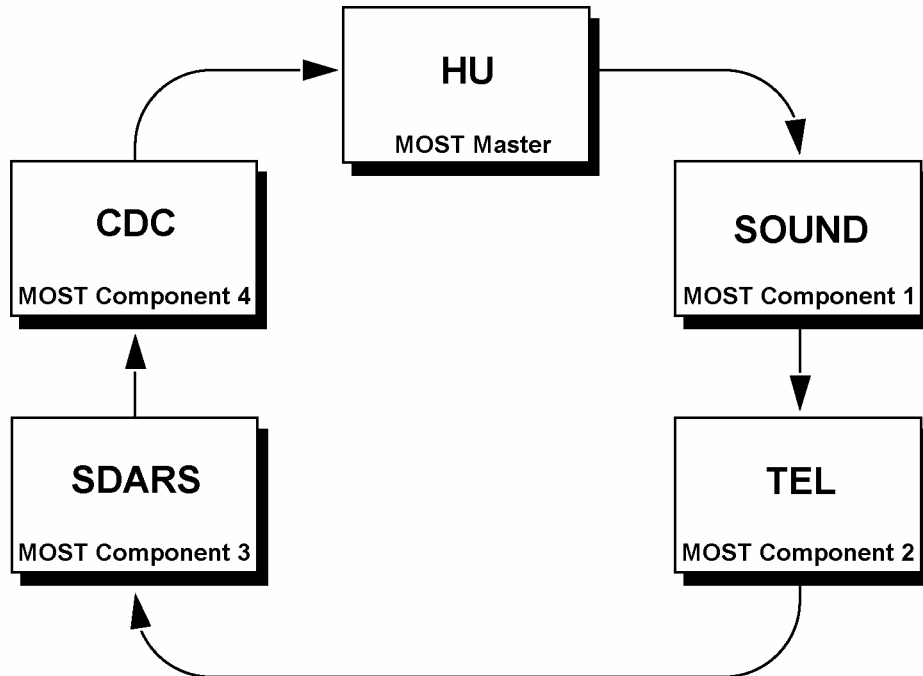

Figure 45
2. Set the MOST ring configuration to match that of Figure 45 by using the path:
**Control units > Information and communication > Audio, video, navigation and telematics > COMAND with integrated Audio Gateway > Retrofitting of MOST components > F2: Restart of optical ring > F2: Actual configuration > Verify that “Telecommunications” is listed under Actual Value and configuration of the MOST components matches that of Figure 45 > F2: To continue > F3: Yes, to write the current actual configuration to MOST master > F2: Erase fault memory**
**Note:** The MOST ring configuration in Figure 45 is an example of a configuration including every component. Some installations will not include all the components shown in the example. If a component is not present, connect the preceding component to the component following the one not present.
**DO NOT alter the configuration in Figure 45 to match the vehicle configuration. Failure to have the configuration match Figure 45 will result in erroneous system operation and/or intermittent malfunctioning of some or all components.**